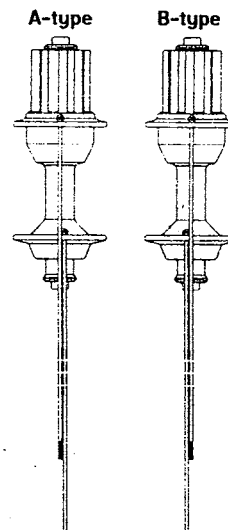

Fig. 2 - Proper initial spoke loading.
Step 4 - Select an appropriate length spoke to put in the lower (non drive side) flange. To determine the appropriate spoke hole in the lower flange, position the hub vertically so that the spoke that is already inserted into the hub is facing you and is hanging straight down. You should notice that this spoke falls between two spoke holes in the lower flange. Drop the spoke in the hole on the lower flange that lies to the left of the first spoke for a B type rim or in the hole on the lower flange that lies to the right of the first spoke for a A type rim (see figure 2).